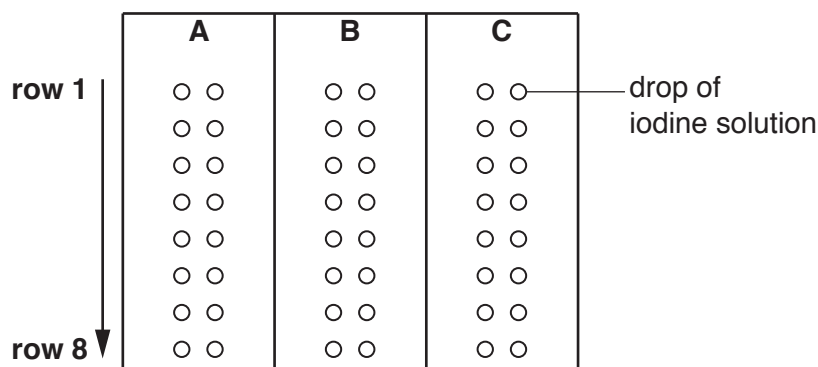

Fig. 1.1
Step 6 Use a marker pen to divide a dry white tile into three sections and label them **A**, **B** and **C** as shown in Fig. 1.1.
Step 7 Drop iodine solution onto the tile to form two rows of 8 drops approximately the same distance apart, in each of the sections **A**, **B** and **C** as shown in Fig. 1.1.